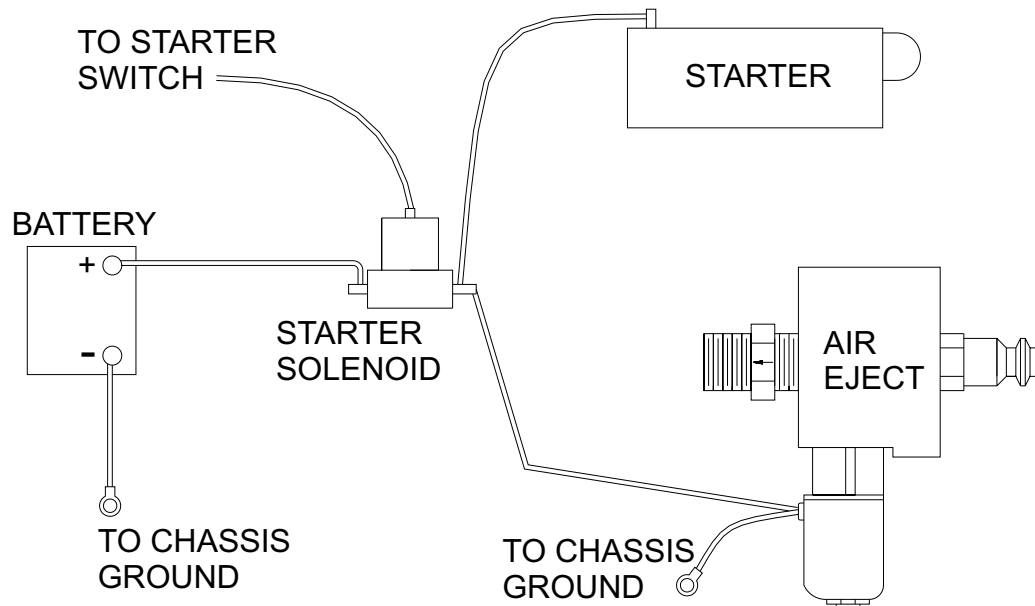

Figure 2
1. Wire the solenoid valve to the vehicle's starting circuit. Be certain that the solenoid is energized only while the vehicle is cranking and de-energized at all other times. Refer to Figure 2 for details.